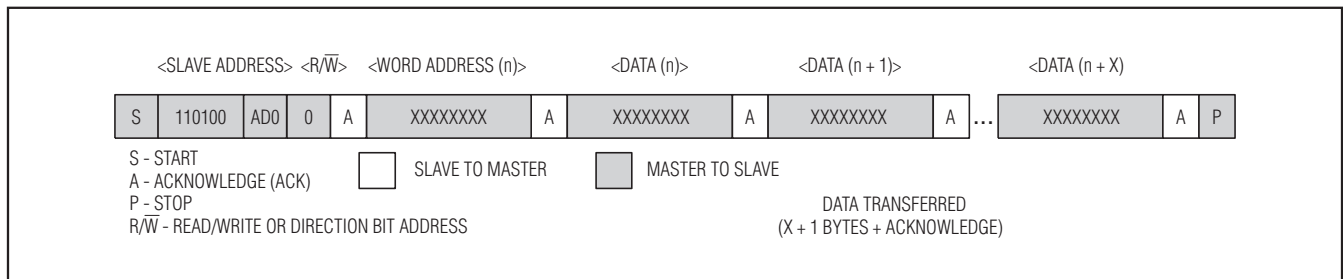

Figure 6. Data Write—Slave Receiver Mode
- 1) **Slave receiver mode (DS1372 write mode):** Serial data and clock are received through SDA and SCL. After each byte is received an acknowledge bit is transmitted. START and STOP conditions are recognized as the beginning and end of a serial transfer. Address recognition is performed by hardware after reception of the slave address and direction bit (see Figure 6). The slave address byte is the first byte received after the master generates the START condition. The slave address byte contains the 7-bit DS1372 address, which is 110100 and AD0. Each slave address is followed by the direction bit ($\overline{R/W}$), which is zero for a write. The bit position signified by A is compared to the value on the AD0 input pin. After receiving and decoding the slave address byte, the device outputs an acknowledge on the SDA line. After the device acknowledges the slave address and write bit, the master transmits a register address to the device. This sets the register pointer on the device. After setting the register address, the master then transmits each byte of data with the DS1372 acknowledging each byte received. The master generates a STOP condition to terminate the data write.